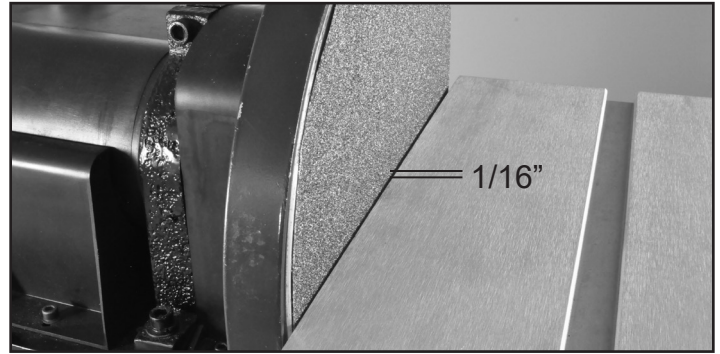

FIG. 11
**⚠ WARNING** To avoid jamming the work piece or fingers between the table and sanding surface, the table edge should be set to a maximum of 1/16 inches away from sanding surface. FIG. 11.